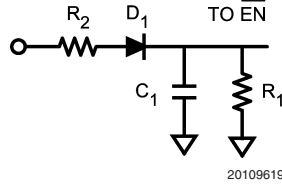

FIGURE 5. Delay Circuit Implementation
If it is important in the end application to make sure that no two inputs are presented to the output at the same time, an optional delay block can be added, prior to the ENABLE (EN) pin of each device, as shown. Figure 5 shows one possible